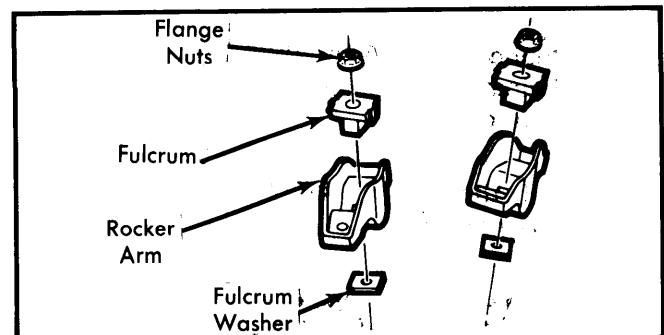

Fig. 4 Exploded View of Rocker Arms
2) Install fulcrum washer, rocker arms, fulcrum and new flange hex nuts, in order shown in Fig. 4. To complete installation, reverse removal procedure.